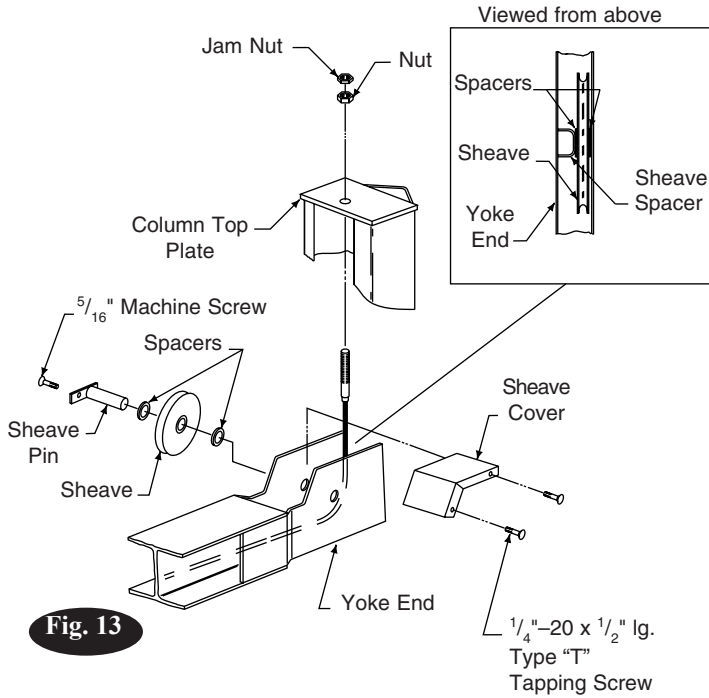
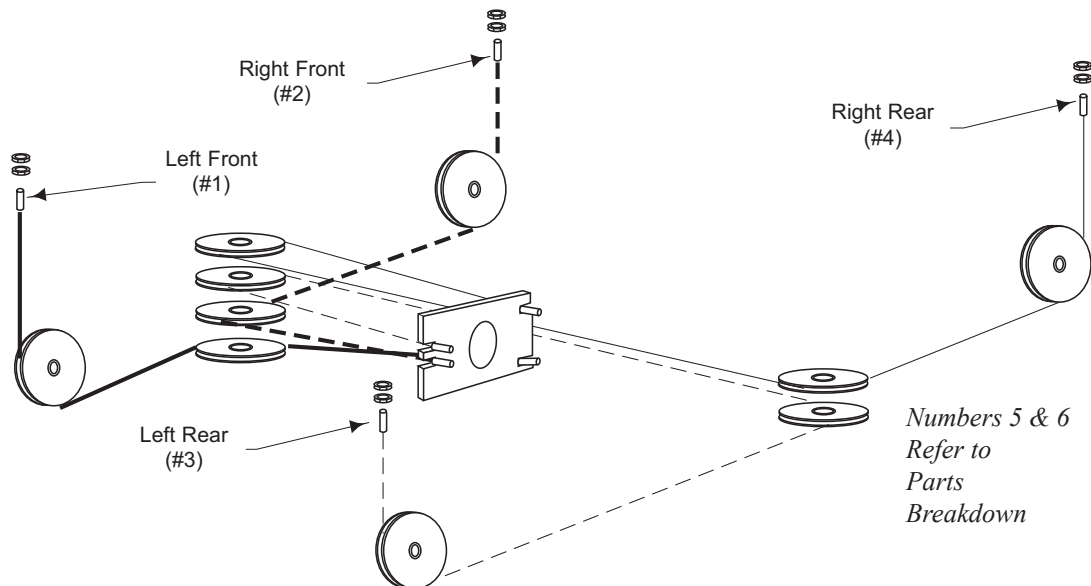

Fig. 13
Fig. 14
Install yoke end sheaves, Fig. 13. Retain with sheave pin and $\frac{5}{16}$ " pan head machine screw, Locktite the screw threads. Attach each cable to column top plate with nut and jam nut. Install sheave covers on each yoke end, Fig. 13. Roping diagram shows a view of completed roping, Fig. 14. **8.**
Adjust Cable: Adjust all cables with lift fully lowered. Loosen cable jam nut. Tighten adjusting nut on cable stud on top of column until yoke end is raised $\frac{1}{4}$ ". Back off adjusting nut one (1) turn. Tighten jam nut. Do this for all four (4) cables. See Fig. 13.